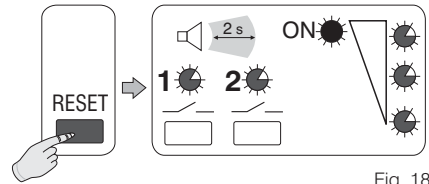

Fig. 18
- Briefly press the **“RESET”** key: when it is released, all the **LEDs** will light together with a **beep** and the **ON LED** will be **steady lit** (fig. 18).